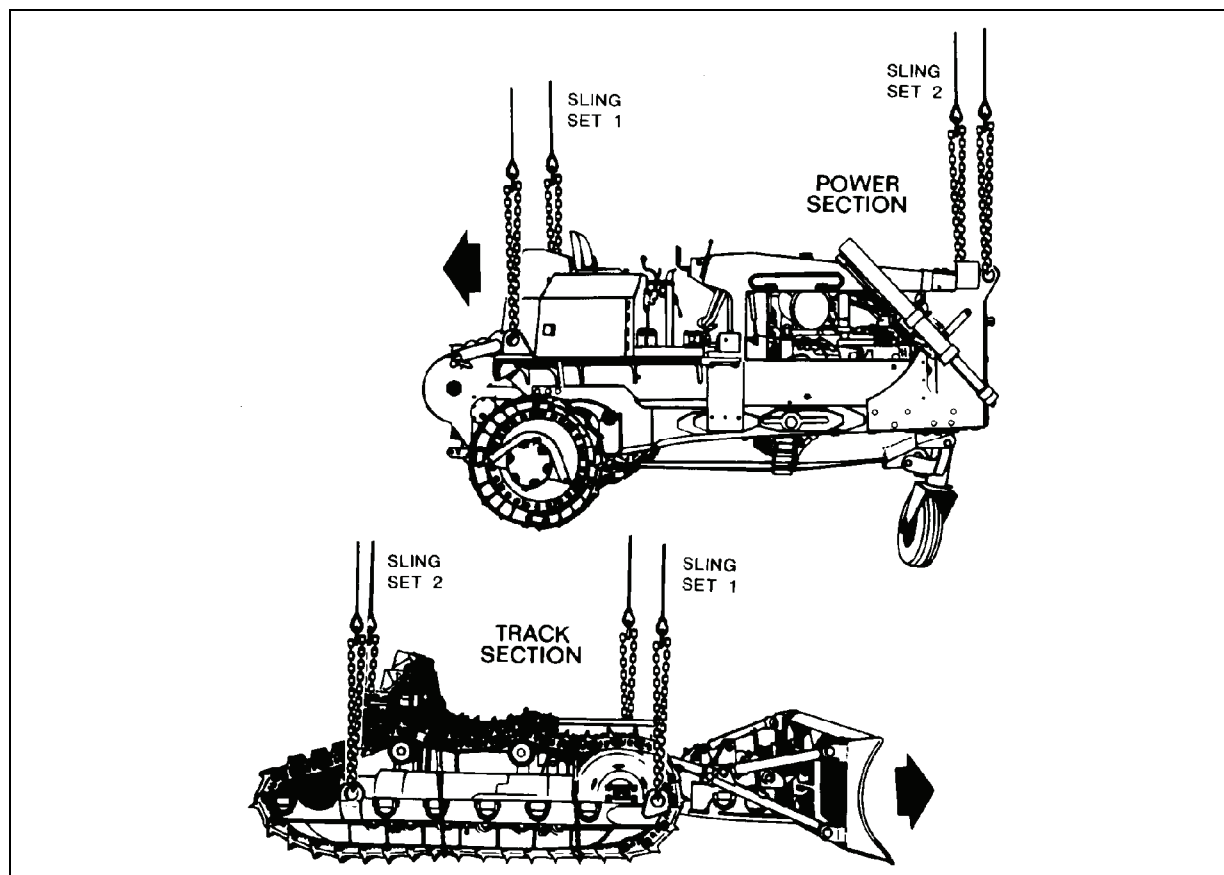

Figure 8-1. D5B Tractor Dozer, Sectionalized
- **Rigging.** Rig the load according to the steps in Figure 8-1.